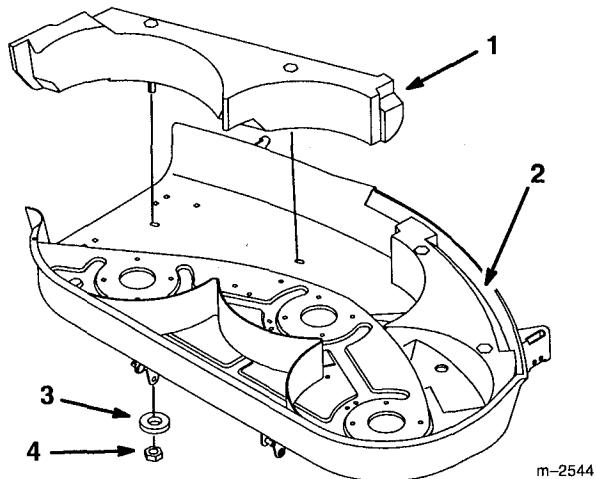

Figure 23
- Remove the two locknuts and Belleville washers holding the right side baffle to the deck (Fig. 23).
- Slide the right side baffle out of the interlock with the left side baffle to remove it from the deck (Fig. 23).